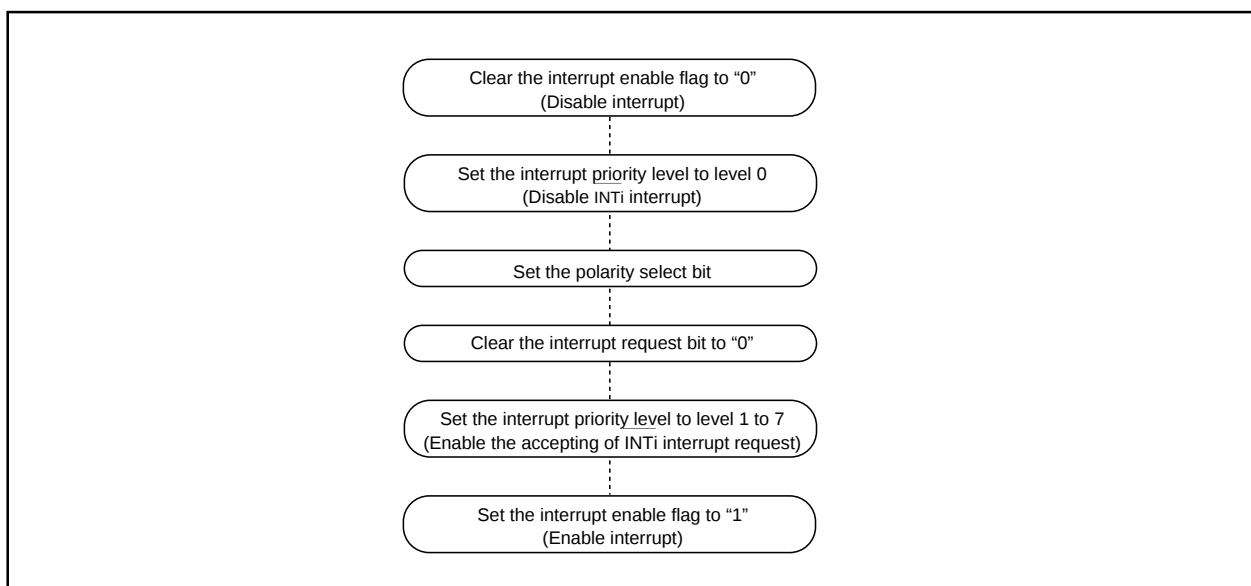

Fig.DD-18 Switching condition of INT interrupt request
(3) The $\overline{\text{NMI}}$ interrupt
(4) External interrupt
- When the polarity of the $\overline{\text{INT0}}$ to $\overline{\text{INT11}}$ pins is changed, the interrupt request bit is sometimes set to "1". After changing the polarity, set the interrupt request bit to "0". Fig.DD-18 shows the procedure for changing the $\overline{\text{INT}}$ interrupt generate factor.